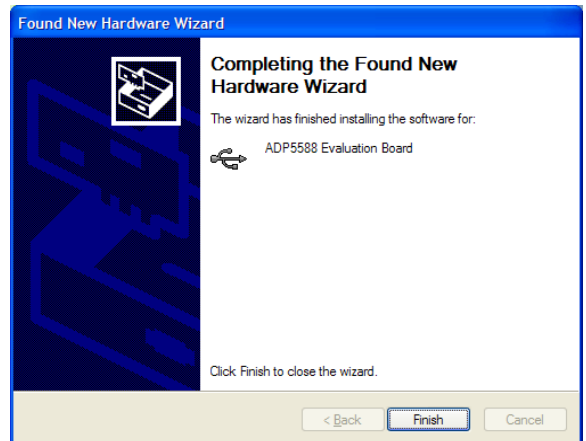

Figure 22. USB Driver Installation Completion
4. When the screen in Figure 22 appears, click **Finish** to complete the USB driver installation.